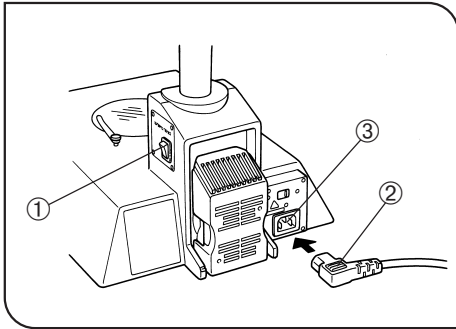

Fig. 10
6 Connecting the Power Cord (Figs. 10 & 11)
- ▲ Make sure the main switch ① is set to “O” (OFF) before connecting the power cord. (Fig. 10)
1. Insert the power cord plug ② into the connector ③ securely (Fig. 10).